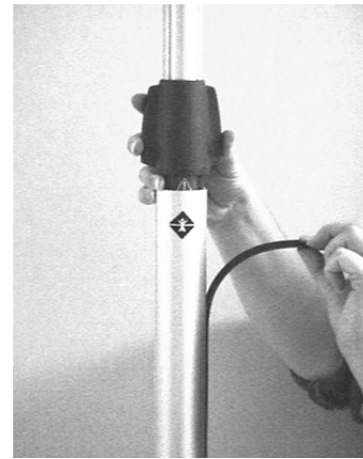

Figure 12
3. Remove the blue plastic strips from each side of the posts. Take one end and pull gently (see Figure 12).